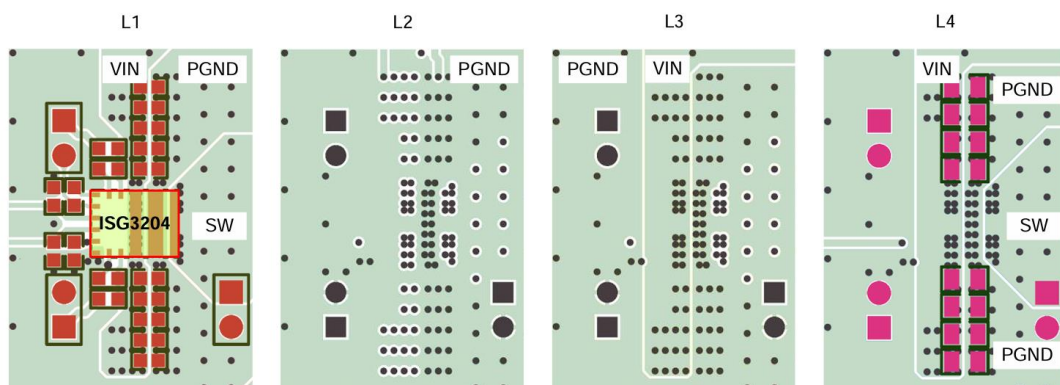

Figure 6 4-Layer Layout Example
1. The optional resistor between HGP(LGP) pin and HG(LG) pin to adjust the turn-on speed of the GaN HEMT should be placed close to ISG3204LA.
3. The power input decoupling caps should be placed close to Vin bar and PGND bar. One 4-layer layout example is shown as Figure 6. 2-layer board design is also possible thanks to the optimized ISG3204LA pinout.
Appendix Figure 6 Mid2 Layer